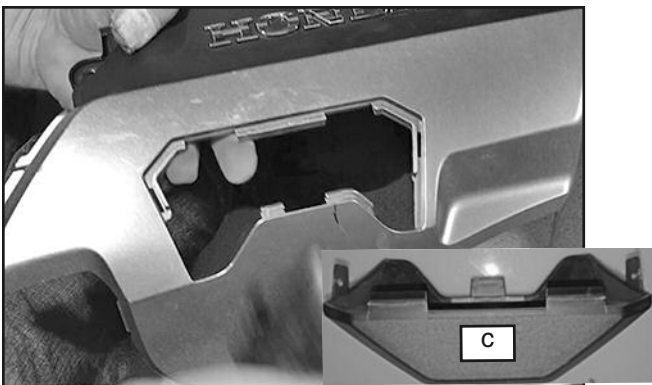

Figure 4
4. Remove Black Cover (c). **Figure 4**